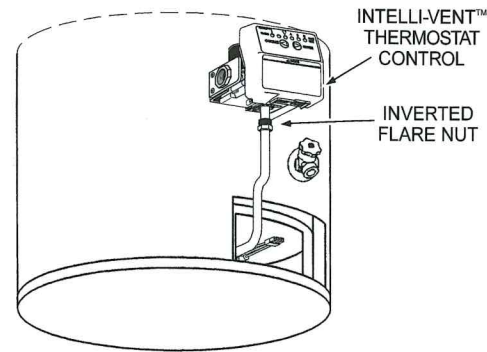

FIGURE 15.
- Re-install the burner assembly into the water heater. Make certain that the flat end of the burner supply tubes goes into the slotted opening of the radiation shield and the flared end into the inverted flare opening of the Intelli-vent™ Thermostat Control, (184960 Series), see Figure 15.
- Hand start threading the burner tube's inverted flare nut into the Intelli-vent™ Thermostat Control, (184960 Series). Use a 3/4 inch open-end wrench to tighten the nut. DO NOT over tighten. DO NOT use joint compound or tape on the union connection, see Figure 15.